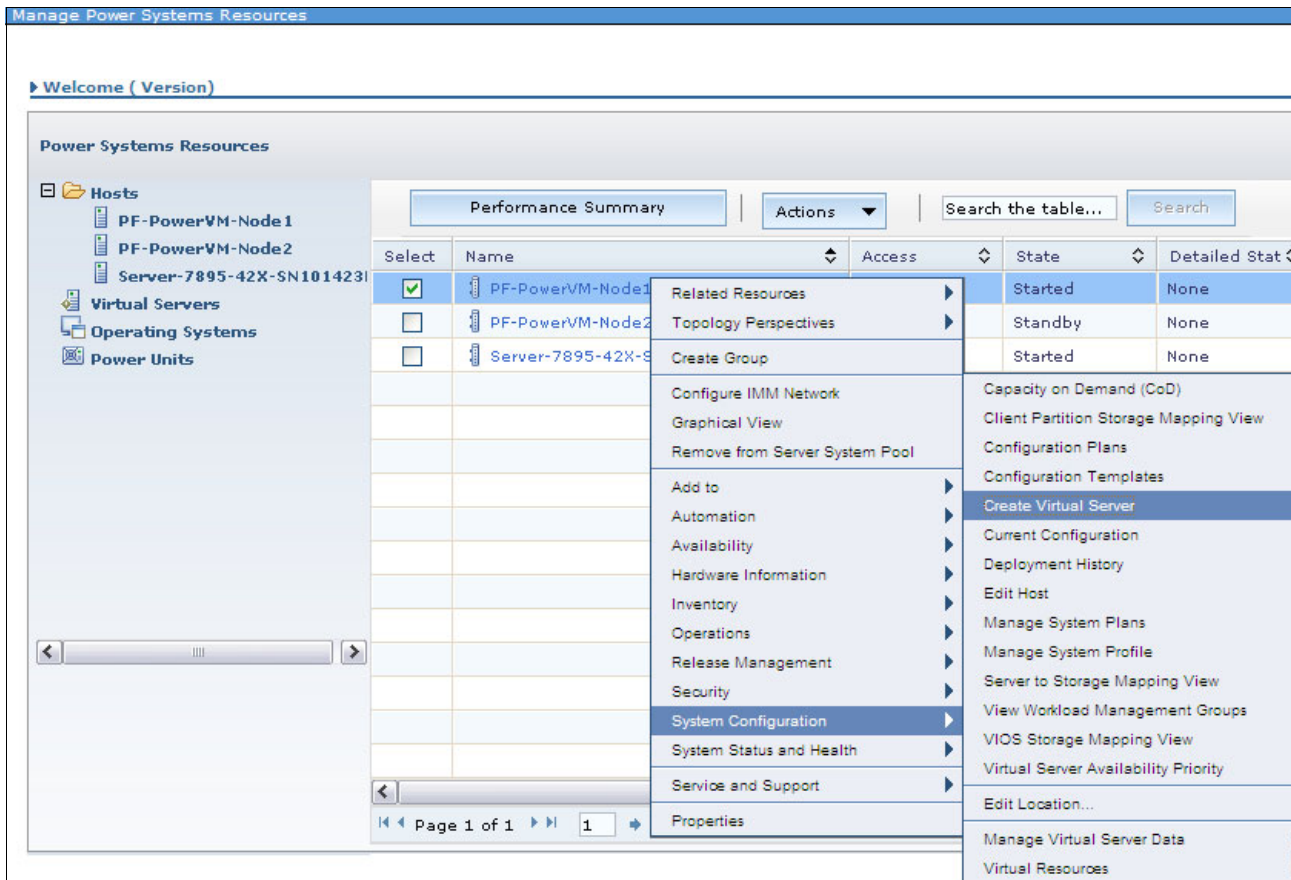

Figure 10-6 Manage Power Systems Resources main window
- If you discovered and collected inventory on p260 compute nodes earlier, you see the physical p260 compute nodes in the opened window (Figure 10-6).
Right-click the discovered compute node, and select **System Configuration** → **Create Virtual Server** (Figure 10-6).